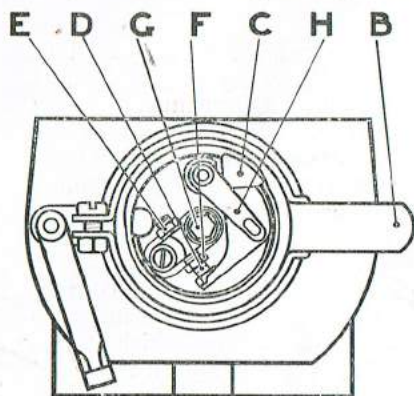

Fig. 8
If adjustment is necessary, turn the engine round slowly until the points are seen to be fully opened, then using the magneto spanner, slacken the locking nut (E, Fig. 8), and rotate the fixed contact screw by the
by removing from the plug terminals the high-tension cable and observing whether a spark takes place on turning the engine round with the terminal lead held about $\frac{1}{8}$ " from some metal part of the engine. If no spark occurs, examine the contact breaker; slowly turn the engine over, and observe the action of the contact breaker rocker arm; it is possible that the arm is not answering to its control spring, and is remaining permanently open as it is rotated. If this appears to be so, remove the contact breaker and applying pressure with the finger on the fibre heel (C, Fig. 8), observe whether the points readily open and close. If they are at all sluggish, push aside the locating spring (H, Fig. 8), and prising the rocker arm off its bearing, examine the steel pin on which it works, cleaning this, if required, with fine emery cloth, wiping away all grit, and moistening the pin with oil before replacing the lever. We need hardly warn the reader that no trace of oil should be left anywhere near the contact points after this has been done.
4. With the "Magdynos" provided with variable ignition, the ignition control or the timing lever (B, Fig. 8) should be moved to the fully retarded position, that is, to the limit of its travel in the forward direction.
5. Remove the contact breaker cover and turn the magneto spindle in its normal direction of rotation until the fibre heel (C) begins to rise on the inclined plane of the cam ring just sufficiently to separate the points (D). This position is the firing point, and the magneto drive should be permanently fixed in this position.